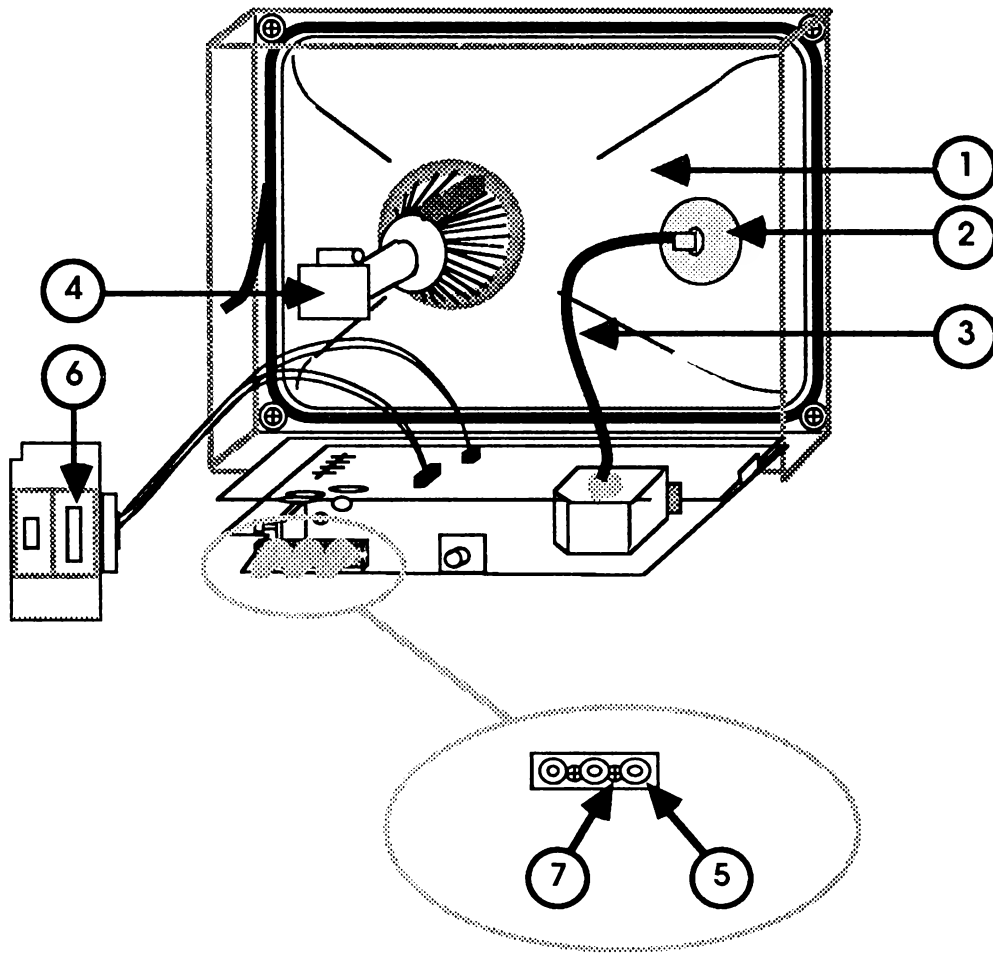

FIGURE 2
WARNING: *There are extremely high voltages on the tube, the anode, the anode lead, and on ends of yoke wires (Figure 2, #1, #2, #3, and #4). DO NOT TOUCH THEM.*
2. Turn the Brightness knob (Figure 2, #5) to make the screen as bright as possible.
3. Turn the Contrast knob (Figure 2, #6) to make the screen as bright as possible.
4. Using a plastic flatblade screwdriver, turn the Sub-Brightness control (Figure 2, #7) until you can see the slanted raster lines on the screen.